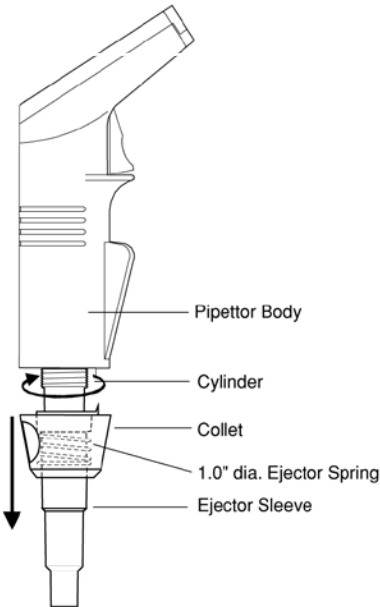

Figure F.1.1b:
2. Remove the collet and ejector sleeve by sliding both pieces down over the cylinder (see *Figure F.1.1b*). For reassembly later, note the position of the large spring in the collet.